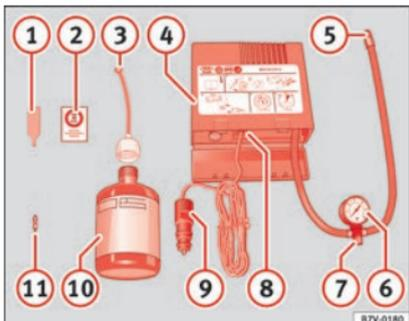

Fig. 59 Standard representation: contents of the anti-puncture kit.
- Unscrew the tyre valve cap and insert. Use the » Fig. 59 ① tool to remove the insert. Place it on a clean surface.
- Shake the tyre sealant bottle vigorously » Fig. 59 ⑩.
- Screw the inflator tube » Fig. 59 ③ into the sealant bottle. The bottle's seal will break automatically.
- Remove the lid from the filling tube » Fig. 59 ③ and screw the open end of the tube into the tyre valve.
- Place the insert back into the tyre valve using the tool » Fig. 59 ①.
- Screw the compressor tyre inflator tube » Fig. 59 ⑤ into the tyre valve.
- Check that the air bleed screw is closed » Fig. 59 ⑦.
- Insert the connector » Fig. 59 ⑨ into the vehicle's 12-volt socket » page 133.
- Turn the air compressor on with the ON/OFF switch » Fig. 59 ⑧.